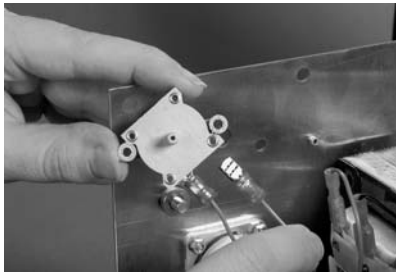

Figure 4-12 Pressure Switch Wires
5. See Figure 4-12. Install the wires on the new pressure switch.